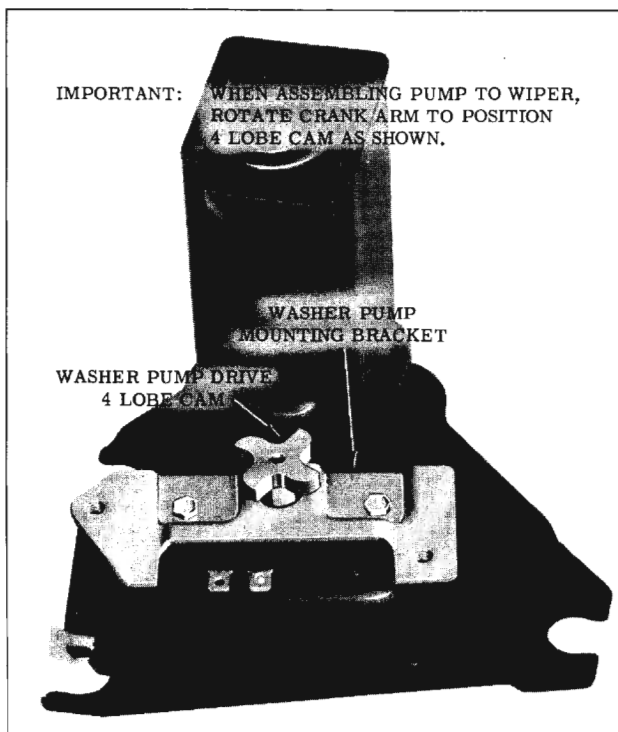

Fig. 14-166 Four Lobe Cam
2. Remove 4 lobe cam as required. (Fig. 14-166) The cam is pressed on the shaft but can